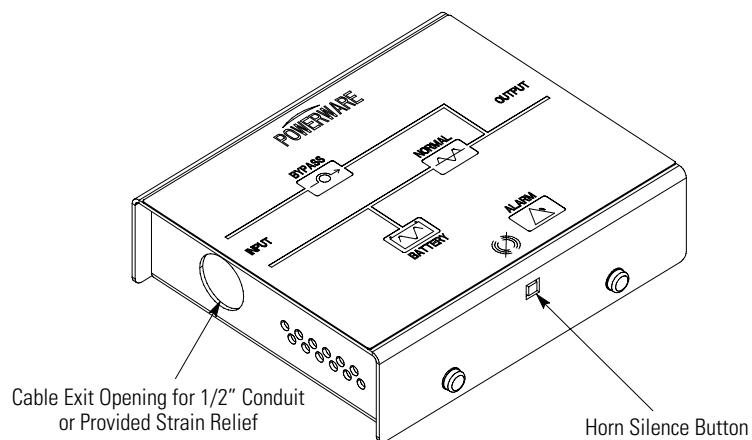
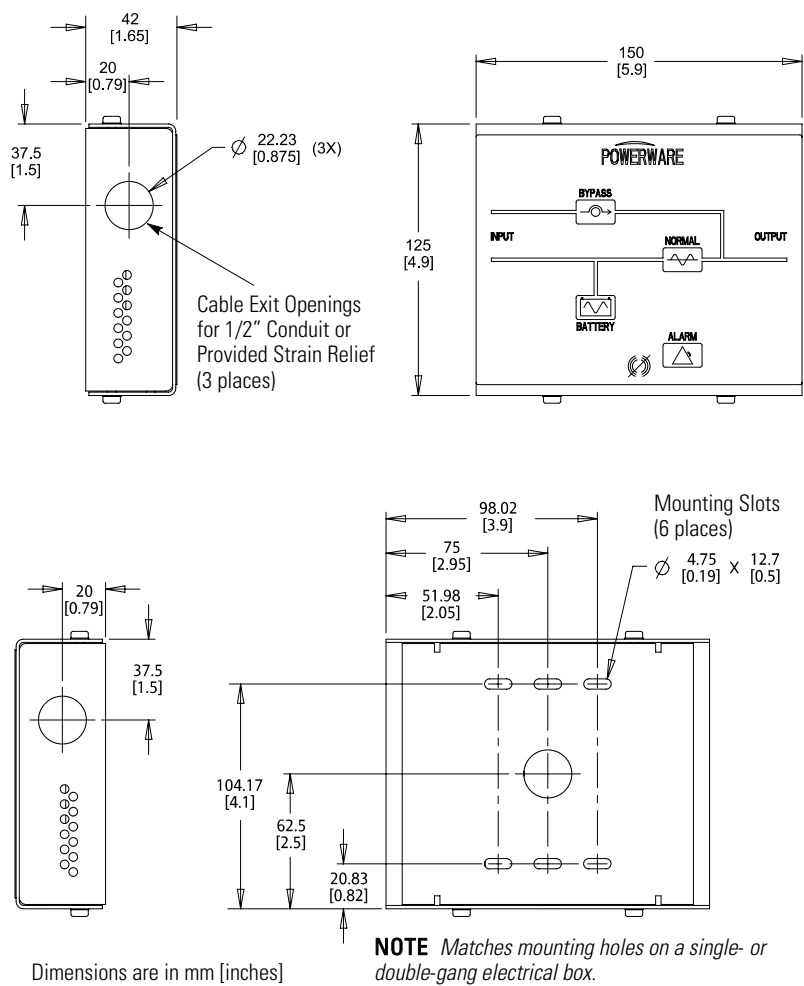

Figure 41. Remote Monitor Panel
Figure 42. RMP Dimensions
The optional RMP can be installed to monitor the operation of the UPS from virtually any location within your facility, up to 152.4m (500 ft) from the UPS. You can surface-mount an RMP on a desktop or on a wall, wherever you have a serial interface line. Figure 41 shows an RMP. Figure 42 shows the enclosure dimensions and cable exit openings.
2. Install 1/2" conduit from the RMP to the IRC through the cable exit openings (see Figure 42). Proceed to Step 4.